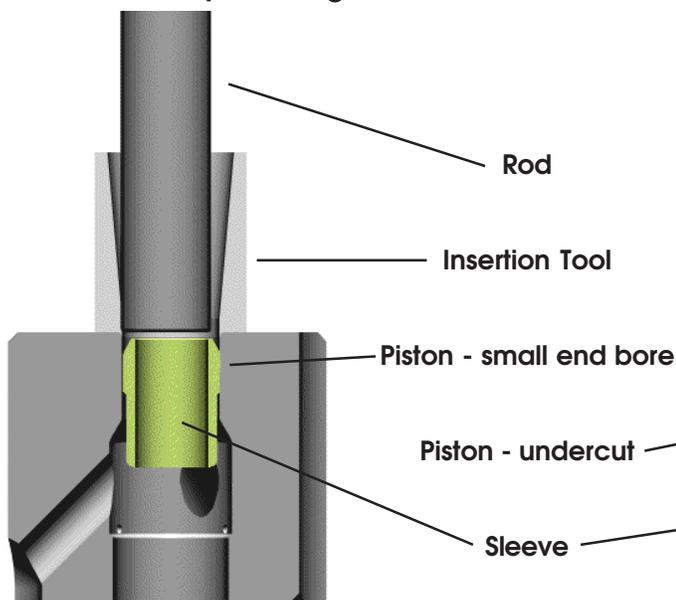

Figure 2-7E
- With the sleeve inserted into the insertion tool, use a press or mallet to tap on the 1-1/8" (28.5 mm) rod and force the sleeve down through the insertion tool, small end bore of the piston (figure 2-7E) and into the undercut (figure 2-7F).